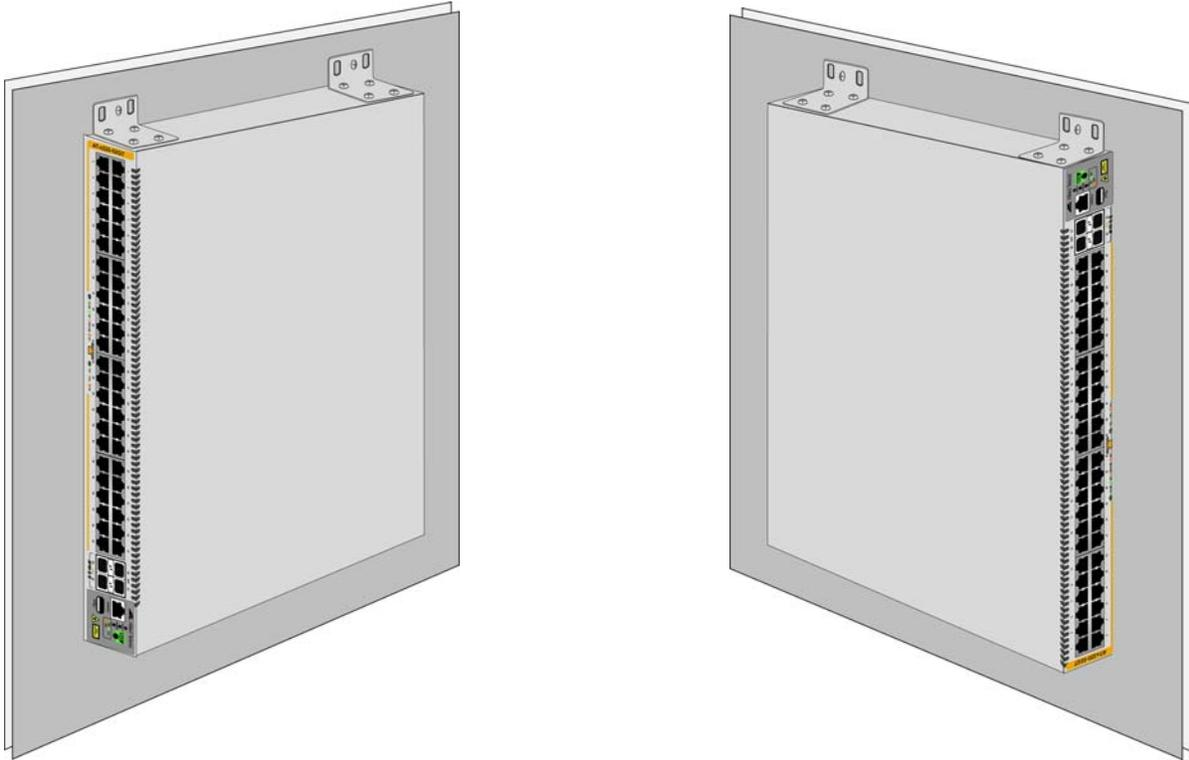

Figure 24. Positioning the Switch on the Wall
You can install the switch on a wall with the front panel on the left or right, as shown in Figure 24. Do not install it with the front panel on the top or bottom.
- Position it so that the front panel is either on the left or right. Refer to Figure 24 on page 58. Do not install it with the front panel facing up or down.
- Position the switch so that the front panel is either on the left or the right. Refer to Figure 24 on page 58. You may not install the switch with the front panel facing up or down.